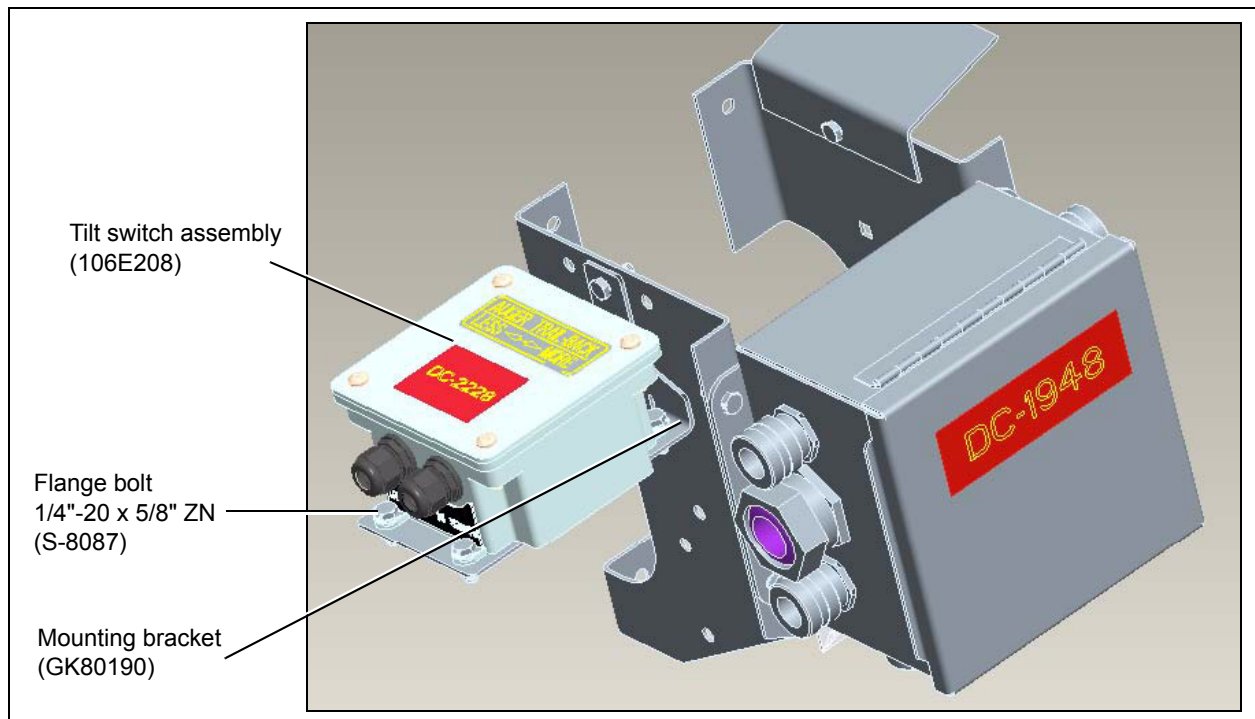

Figure 2
7. Place new tilt switch assembly (106E208), onto the mounting bracket (GK80190) and bolt into place using hardware, bolt (S-8087) and nut (S-4310) provided. *(See Figure 2.)*
10. Place new tilt switch assembly (106E208), onto its mounting bracket (GK80190) and bolt into place using hardware, bolt (S-8087) and nut (S-4310) provided. (See Figure 2 on Page 2.)
5. Mount new tilt switch assembly to the bracket (GK80190) using hardware, bolt (S-8087) and nut (S-4310) provided. *(See Figure 2 on Page 2.)*